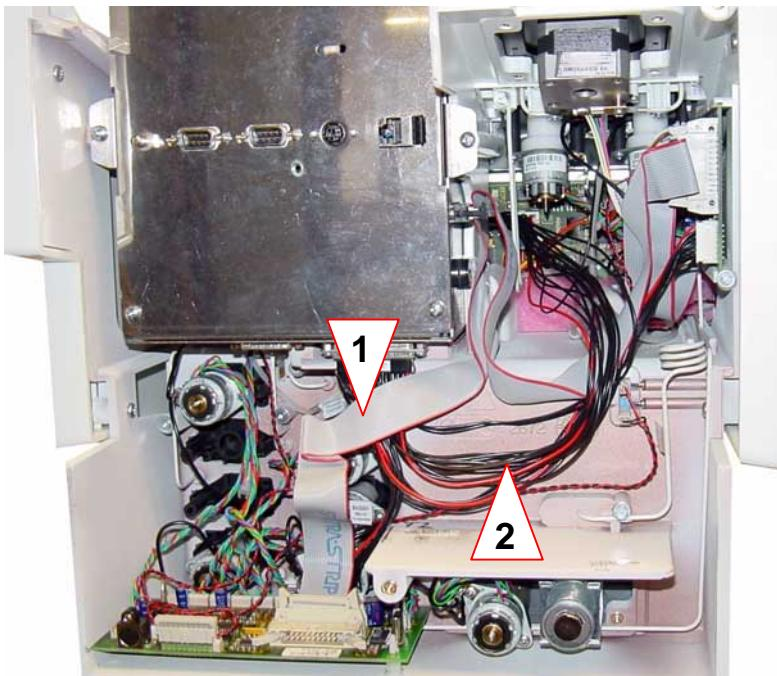

Fig. 3-49 Cables
2. Pull off the data bus cable (gray flat cable) from all components (see Fig. 3-49, **1**).
2. Pull off the DC power cable from all components (see Fig. 3-49, **2**).